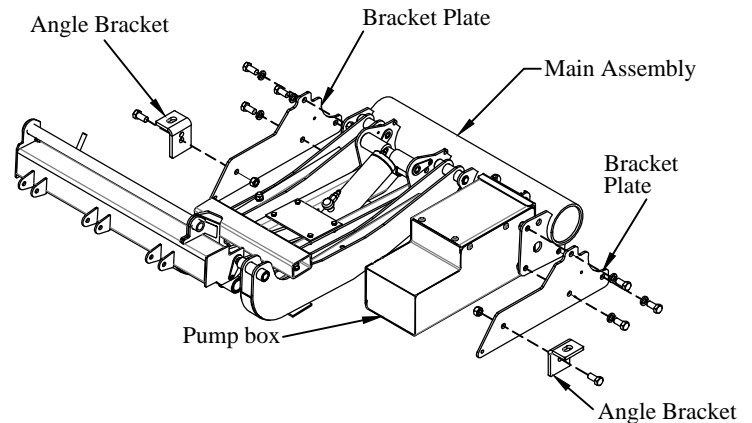

Figure 7: Bracket plate locations.
- 8. Install** each bracket plate on the main assembly using three 5/8" x 1-1/4" bolts, lock washers, and nuts. The bolt head and lock washer should be on the outside (Figure 7).
- 9. Attach** each angle bracket to a bracket plate using a 5/8" x 1-1/4" bolt, and lock nut. Use the bottom hole of the angle bracket (Figure 7).